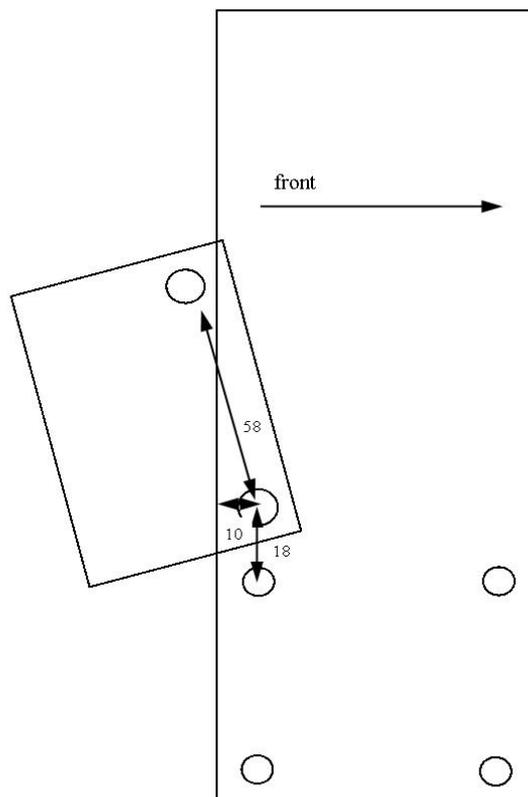

Figure 75; hole for brake calliper mounting.
- b) If not already done, drill an 8mm diameter hole in each undercarriage leg 18mm above the upper rear stub axle mounting holes, as shown in Figure 75 and visible in Figure 77.